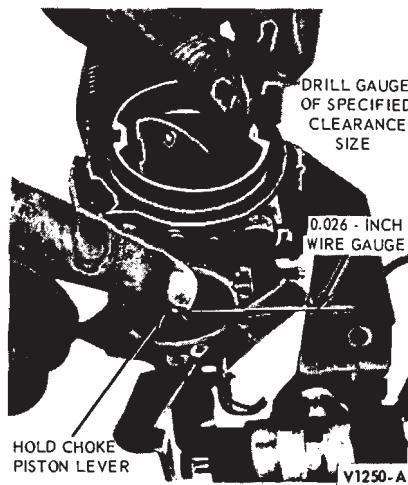

FIG. 5—Adjusting Choke Plate Pulldown
3. Exert a light pressure on the choke piston lever to hold the gauge in place, then use a drill with a diameter equal to the specified clearance between the lower edge of the choke plate and the carburetor bore to check the clearance (Fig. 5).